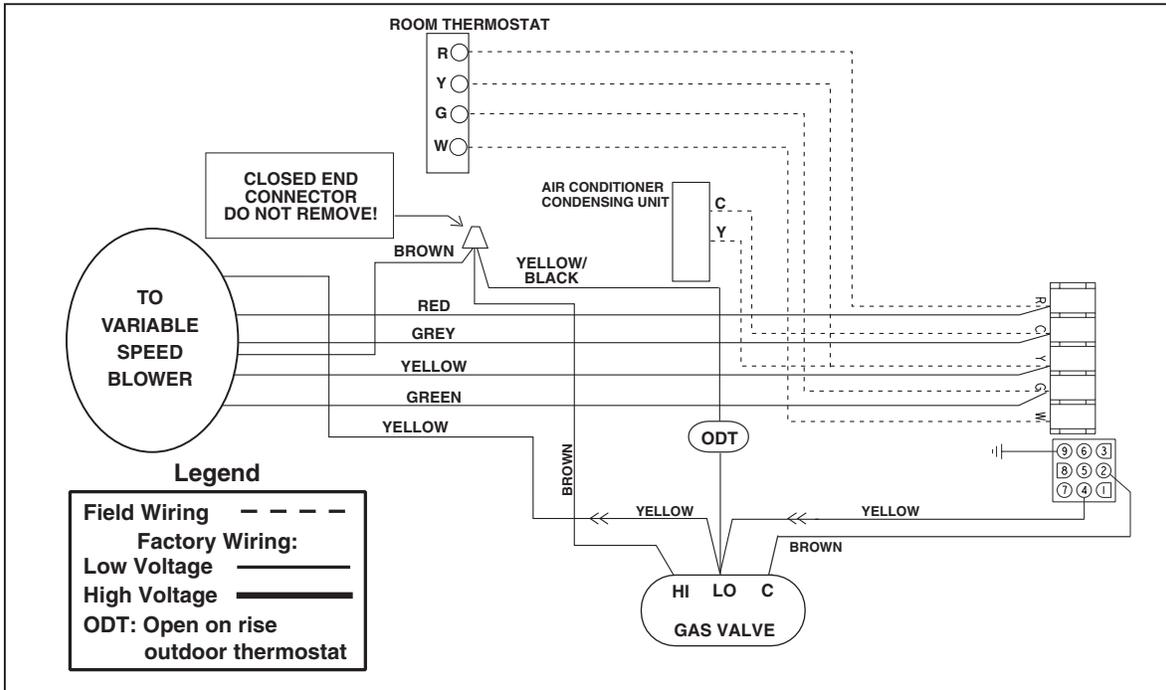

Figure 26d. Outdoor Ambient Dependent
4. *Outdoor ambient dependent configuration* – For this installation, low and high terminals are connected in parallel with an outdoor thermostat (open on rise style) in series with the high terminal (See Figure 26d). **CAUTION:** DO NOT CONNECT W2 from outdoor thermostat to the furnace wiring when using the outdoor ambient dependent configuration. When the outdoor temperature is above the set point, the outdoor thermostat opens keeping the high terminal open. The furnace operates in the low fire mode at a lower blower speed. When the outdoor thermostat closes, the high fire on gas valve opens and the furnace operates in the high fire mode at higher blower speed.